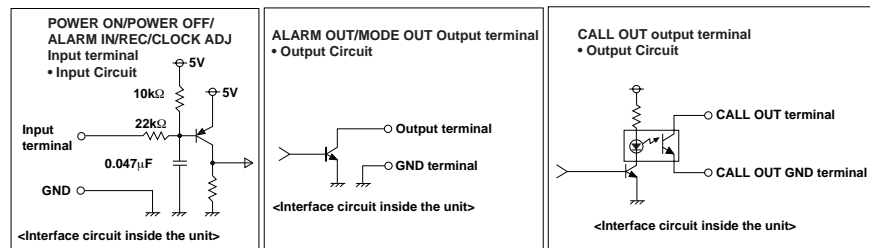

Figure 10. Schematics for Input and Output Terminals
- Optional. Connect equipment to the CLOCK ADJ, REC, MODE OUT, and CALL OUT terminals. Refer to Figure 10 for schematics of the input/output terminals.